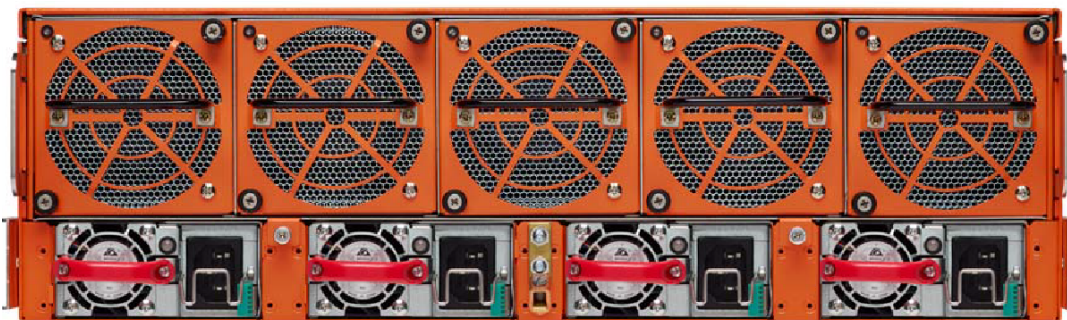

Figure 6 *Four Power Supply Modules Installed*
4. Repeat the previous steps for the next PSM. Figure 6 Four Power Supply Modules Installed shows the GigaVUE-HC3 node with all four power supply modules installed.